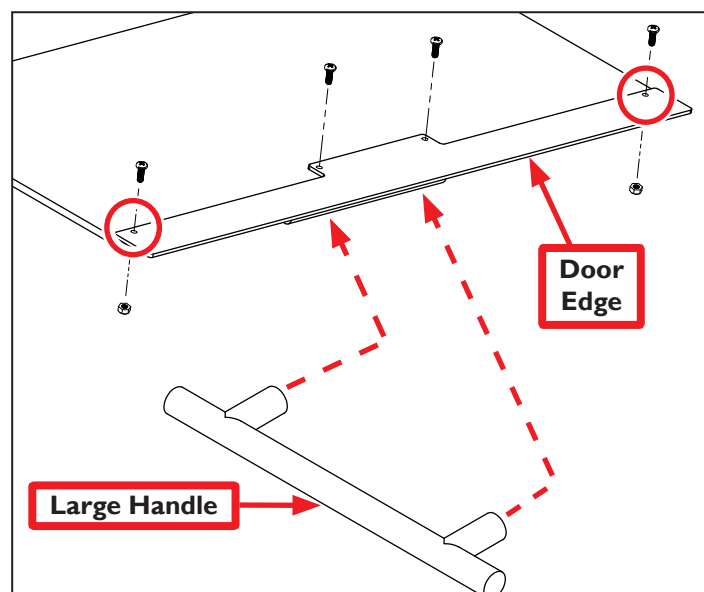

Figure 17
24. Using two 8-32 x 1/2" Phillips Screws and two 8-32 Nuts, attach Door Edge to Left Door Window (see **Figure 17**).
25. Using two 8-32 x 1/2" Phillips Screws, attach one Large Handle to Left Door Window opposite Door Edge (see **Figure 17**); tighten Large Handle screws.